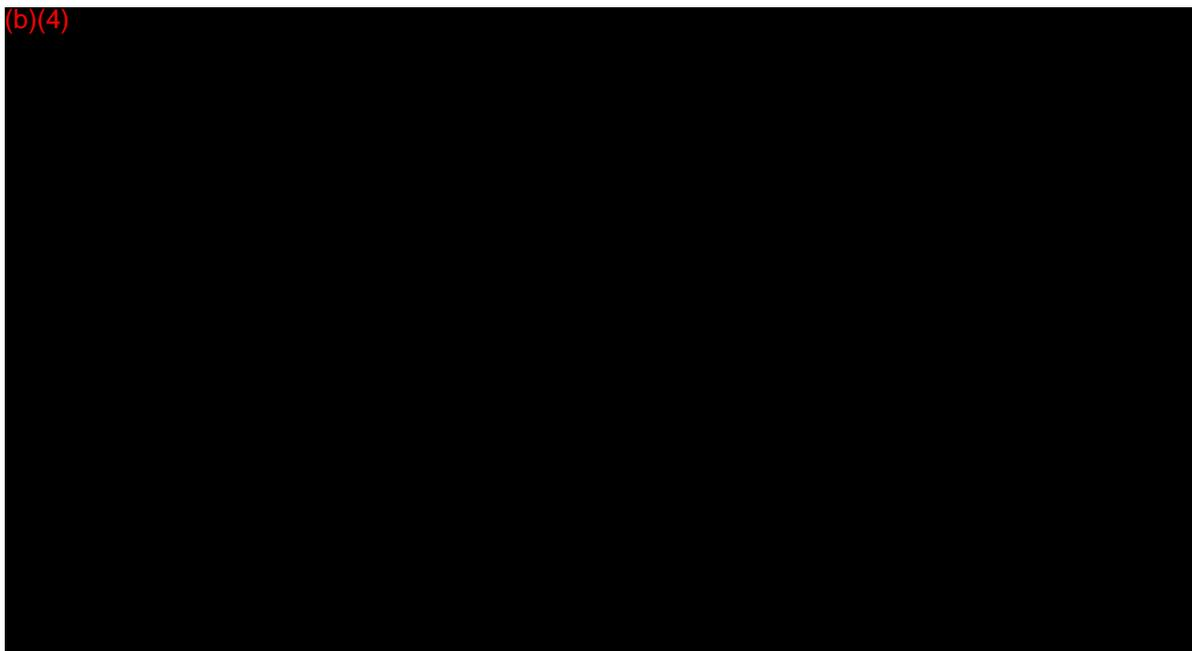

Figure 11 - Histogram of (b)(4)
Figure 11 shows the distribution of scores across all readers for those cases in which (b)(4) were identified. (b)(4)